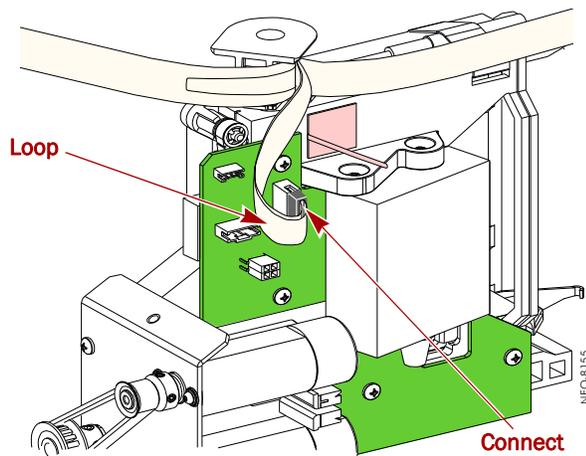

Figure 13. Connect the Signal Controller Cable
2. Loop and connect the **signal controller cable** to **J4** (Figure 13 & Figure 18).